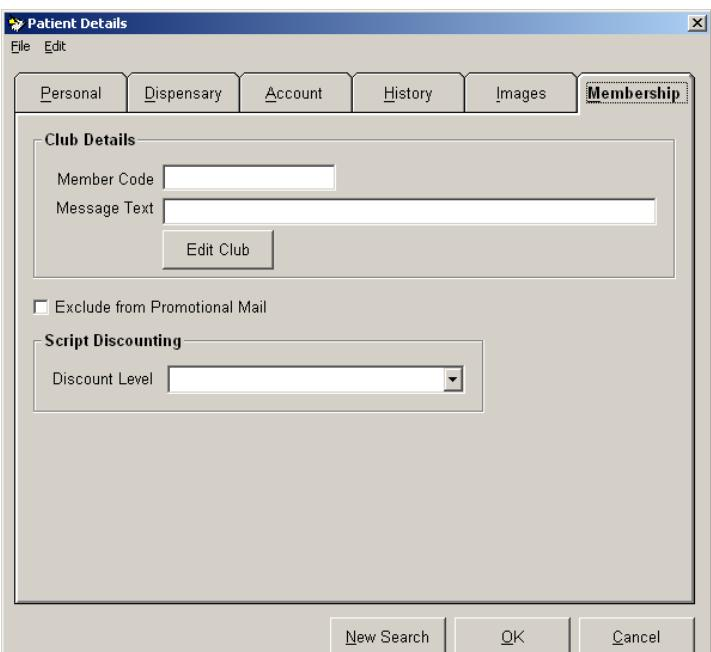

Figure 387
5. After checking/entering the customer's personal details select the Membership tab (see Figure 387).